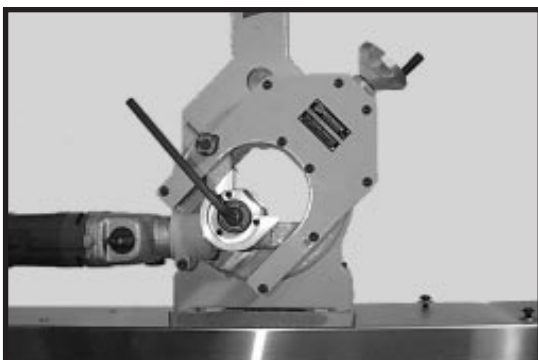

Figure 2
2. Loosen 3/8-24 SHCS blade bolt with 5/16 allen key. (Figure 2)